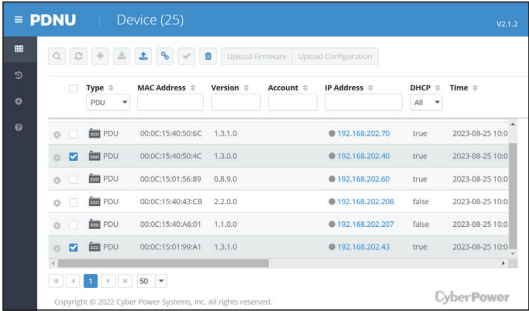

Figure 5. Equipment List
Step 1. Select the appropriate PDU device from the Equipment List and then click **Connection** button on the top tools list to set up.(Shown in Figure 5).